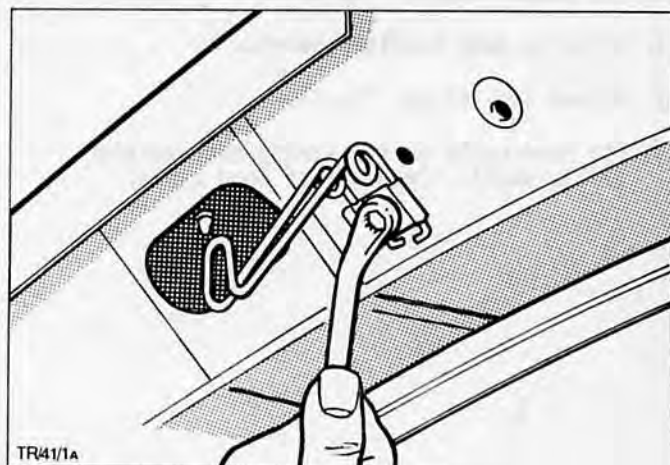

Fig.30. Fit hood safety catch.
6. Fit safety catch and align it so that it engages correctly in the striker plate, Fig.30.